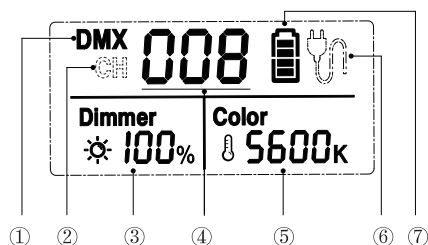

Fig.5 LCD display
The top left corner of LCD screen shows "DMX" (Fig.5 ①) indicating that the communication control mode currently is DMX communication mode. In this mode, connect the DMX signal output device to the lights network, and set up the communication address to work normally. This light occupies 2 DMX control channels, the current DMX address(N) is brightness control, and the next set address of the current value (N+1) is color temperature control.
The top left corner of LCD screen shows "CH" (Fig.5 ②) indicating that the communication control mode is interaction control mode. In this mode, set the target lights to the same communication address to work normally, and the master-slave machine is not distinguished. Tips: Please do not connect any DMX output device with light when using interaction control, otherwise interaction control function will not be used normally.